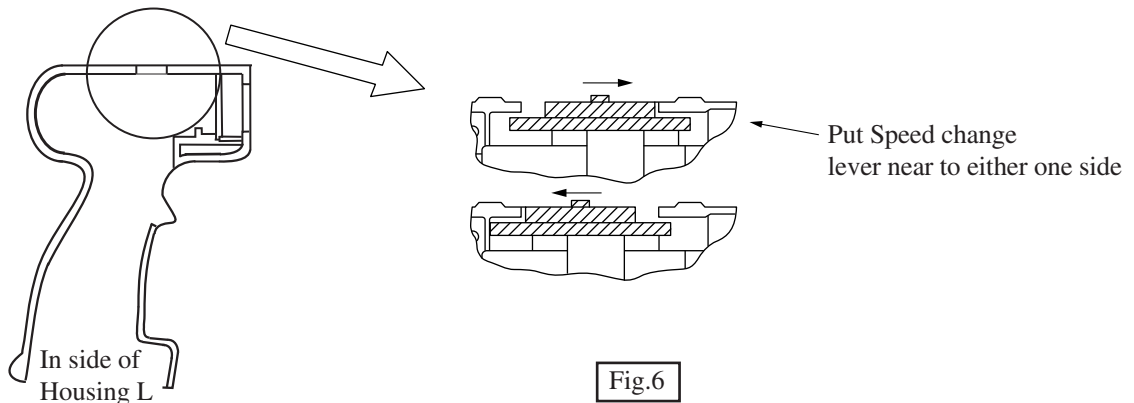

Fig.6
- 1) When attaching a unit of gear assembly and motor, etc. to housing L, place speed change lever in the position as shown in Fig. 6.